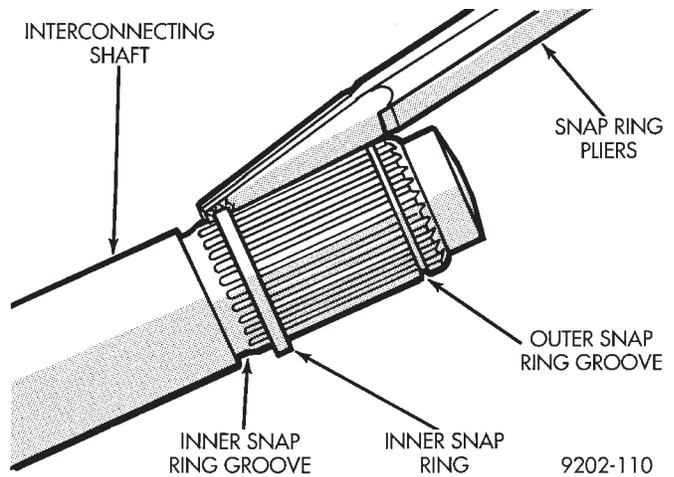

Fig. 10 Inner Snap Ring Installation
(1) Fasten the (new) boot to the interconnecting shaft. See Boots Install.
(2) Install the inner tripod assembly retaining snap ring into the retaining groove on the interconnecting shaft (Fig. 10).
(3) Install the tripod assembly onto the interconnecting shaft until it is past the outer snap ring groove on the shaft (Fig. 10). If required the tripod assembly can be tapped onto the interconnecting shaft using a brass drift, on the body of the tripod as-